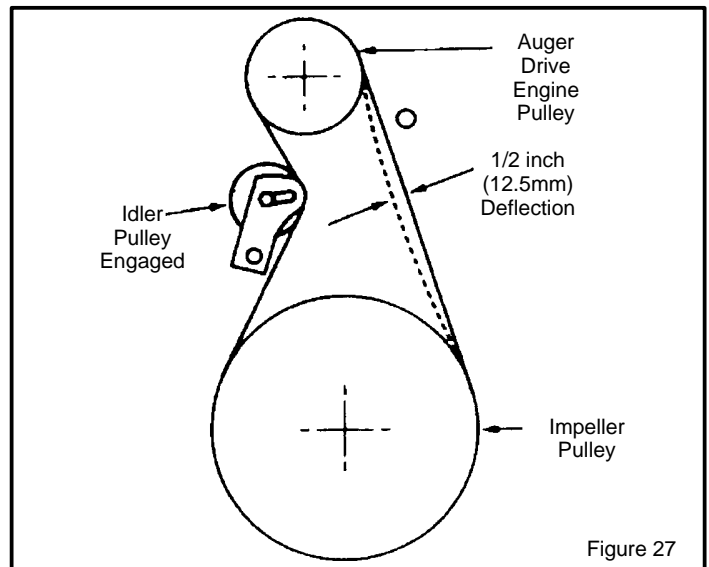

Figure 27
5. Have someone engage auger drive clutch. Check tension on belt (opposite idler pulley). Belt should deflect about 1/2 inch (12.5 mm) with moderate pressure (Figure 27). You may have to move idler pulley more than once to obtain the correct tension.